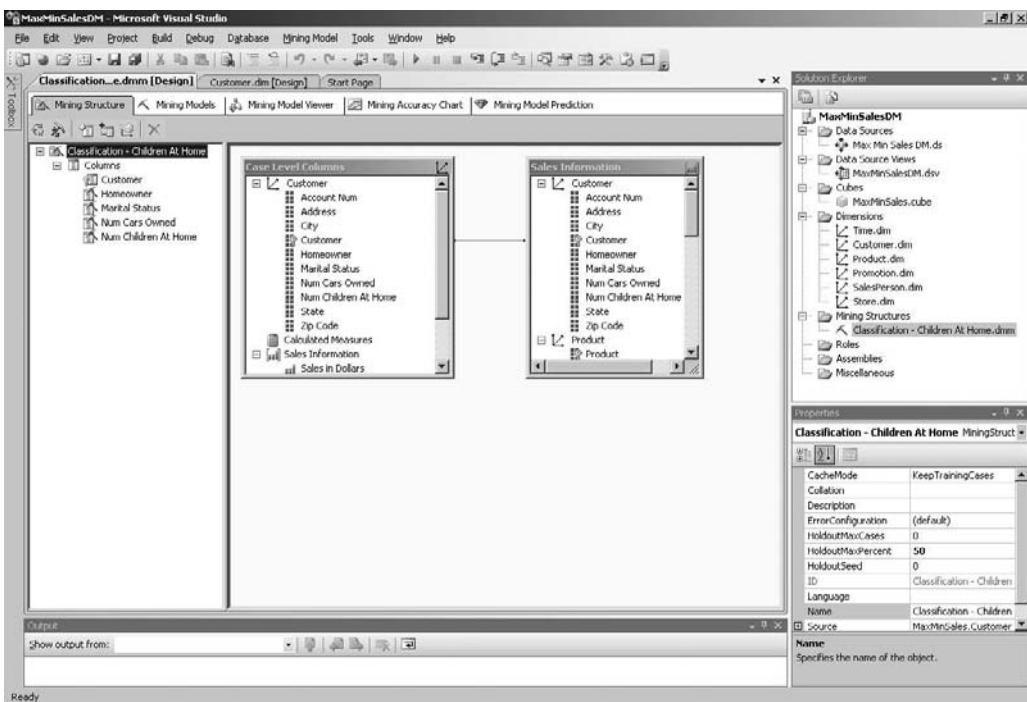

Figure 14-12 The Mining Structure tab on the Data Mining Design tab
42. Click Finish. The data mining structure containing our new data mining model is created and the Data Mining Design tab appears as shown in Figure 14-12.